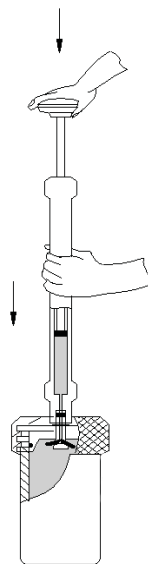

Figure 4-3 Pressurizing the cup
2. Push the nose of the plunger onto the check valve (Figure 4-3). To pressurize the Sag cup, forcefully hold the cylinder to keep the check valve down (open); and simultaneously, apply and maintain approximately 50 lb of force on the piston rod.